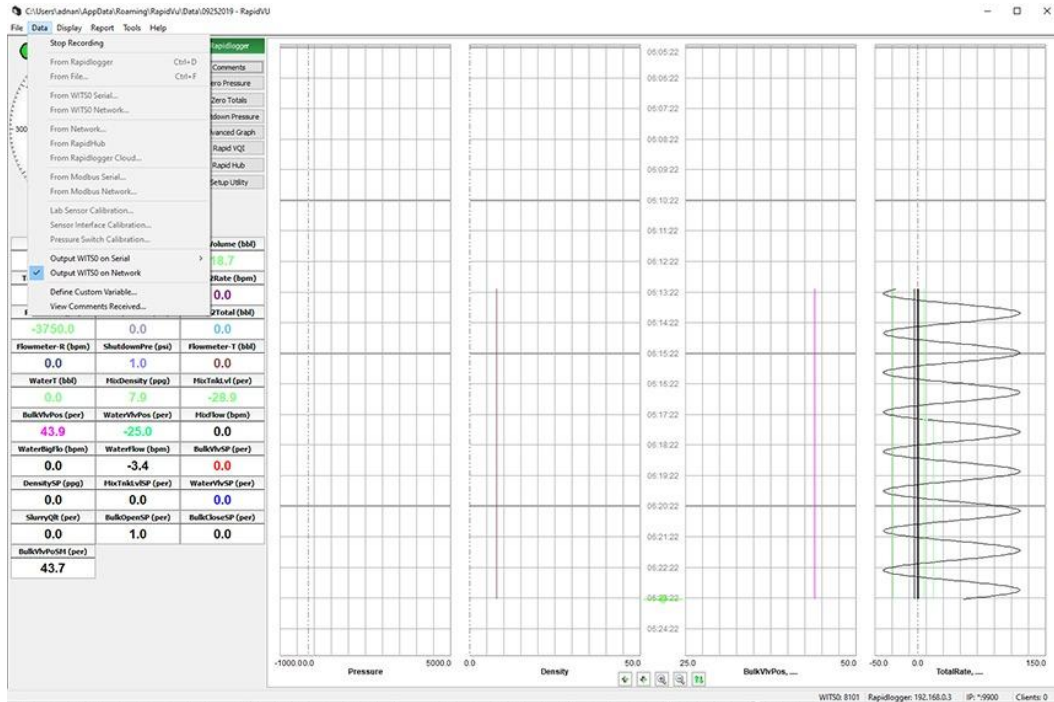
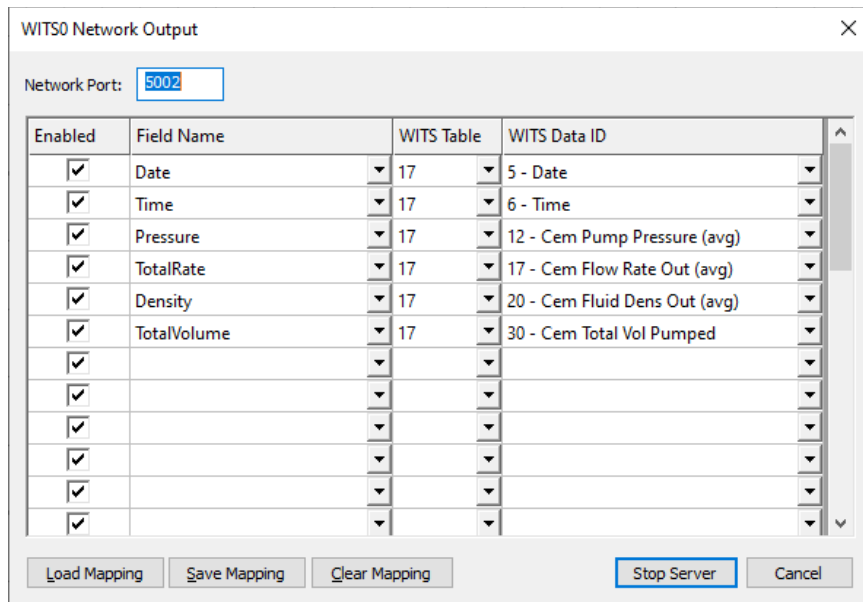

Figure 1: RapidVu Data menu: Output WITS0 on Network
Figure 2: WITS0 Network Output dialog with the table 17 (cementing) mapping
1. From the RapidVu program on the PC. RapidVu reads the data from the Rapidlogger and re-sends it as WITS0 on a network socket (default port 5002) or on a serial port. Select Data, then Output WITS0 on Network (Figure 1) and fill in the mapping (Figure 2). See Tech Note #22, first method.